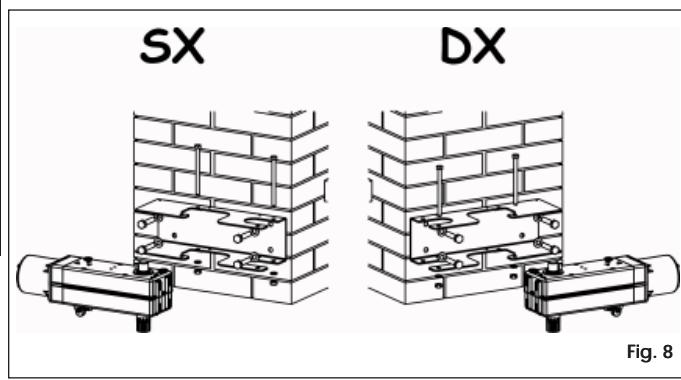

Fig. 8
- Secure the base-plate to the pilaster, using Ø10 screws and suitable expansion plugs (Fig. 8), and check it is perfectly horizontal.
- Fit the gearmotor unit on the base-plate and secure it with the two screws, nuts and flexible washers (Fig. 8).